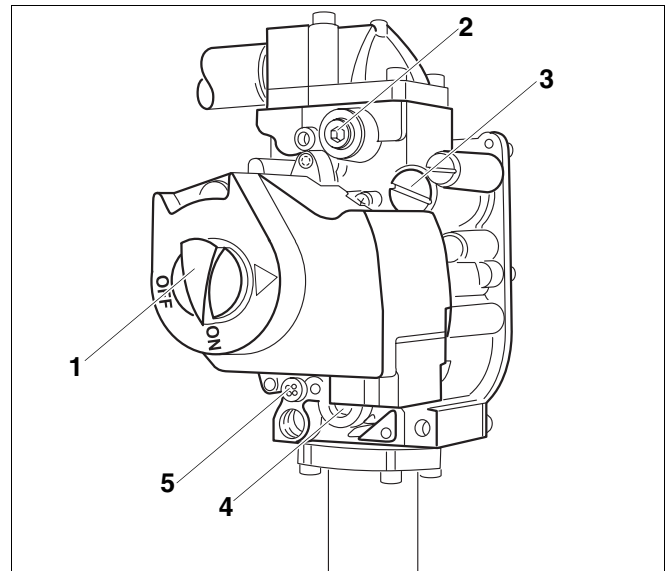

Fig. 11 GC124 II gas valve
6. Compare the orifice pressure with the values in → Tab. 2. If it differs by more than 0.2" W.C., adjust accordingly. To set the orifice pressure, the protective screw on the gas valve must be removed (→ Fig. 11). Turn the adjustment screw clockwise to increase the pressure, and counterclockwise to reduce the pressure. This setting must be adjusted while the boiler is operating.